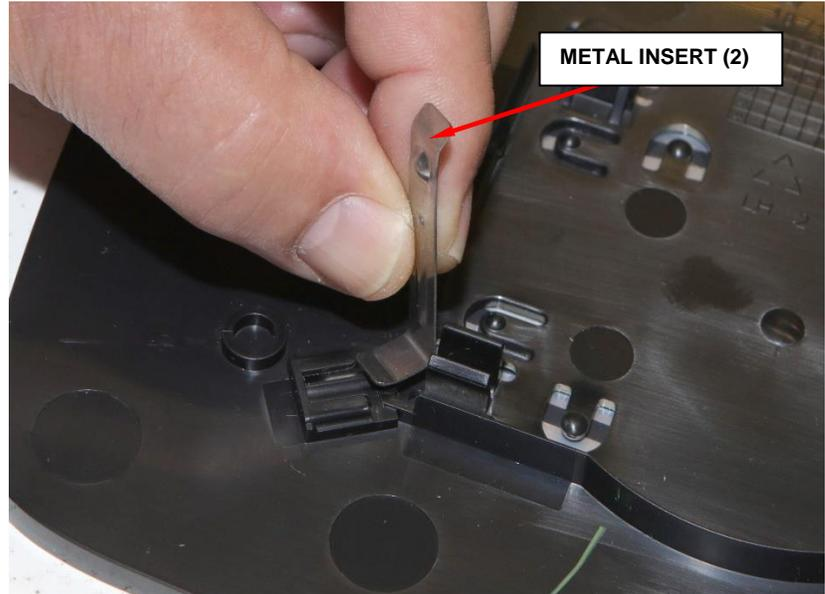

Figure 5 – Mirror Insert
1. Remove the metal inserts from the package and insert them on the **NEW** mirror (Figure 5).